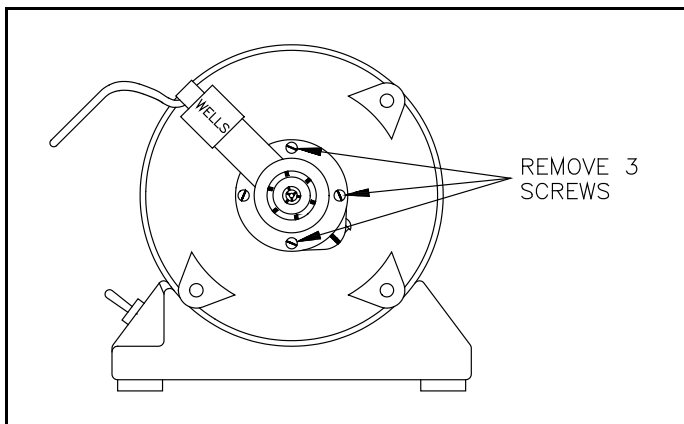

Figure 2.
2.1 Remove three mounting screws that hold the Quick Chuck illustrated in Figure 2. Leave the Quick Chuck attached with the one screw.